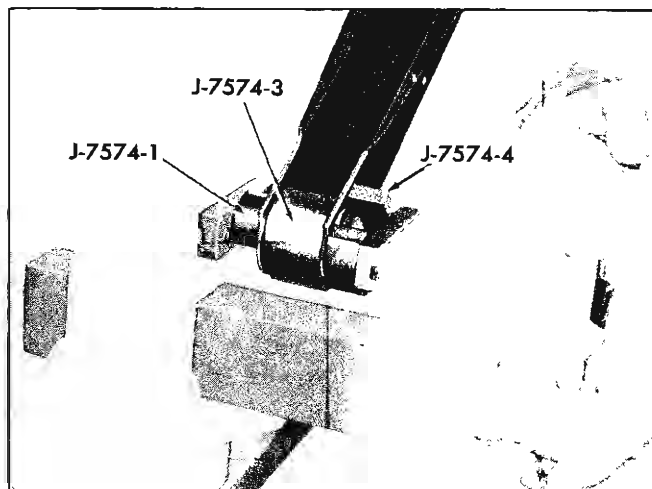

Fig. 23—Lower Control Arm Front Bushing Removal
- a. Center Receiver J-7574-4 over flanged end of bushing and position Spacer J-7574-3 over bushing and between sides of control arm. Using Remover J-7574-1 against small end of bushing, press bushing from control arm. Refer to Figure 23 for installed view of tools.